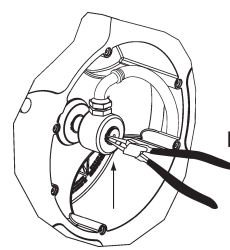

FIG 17.
3. Remove the circlip and pull the swivel. Be careful not to damage the swivel O-Ring (Fig. 17).